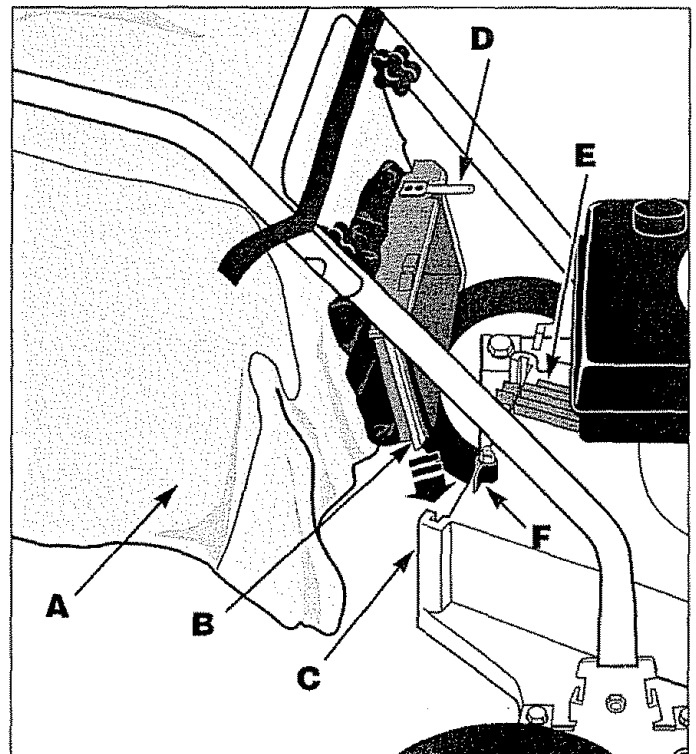

Figure 14: Install collection bag.
1. Make sure the bag (A in Figure 14) is zipped.
3. Line up the tabs on the bag inlet adapter (B) with the slots in the discharge opening (C) and slide the bag inlet adapter down all the way into the slots. Turn the retaining knob (F) until the tab on the knob drops into the slot on the top of the inlet adapter.
**NOTE:** The rod (D) on the inlet adapter is part of the machine's safety interlock system. Make sure the rod fits securely in the slot in the safety interlock switch (E).